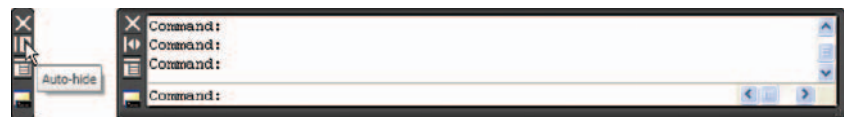

Fig. 1.6 The command palette when *dragged* from its position as the bottom of the AutoCAD window
- **Command palette**: can be *dragged* from its position at the bottom of the AutoCAD window into the AutoCAD drawing area, when it can be seen to be a palette (Fig. 1.6). As with all palettes, an **Auto-hide** icon and a *right-click* menu is included: